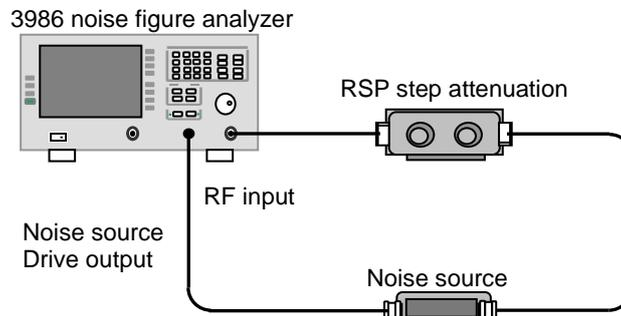

Figure 8.5 Test Block Diagram of Gain Measurement Range and Measurement Uncertainty
**Step 1.** Connect the test system as shown in Figure 8.5 and warm it up for 30min.